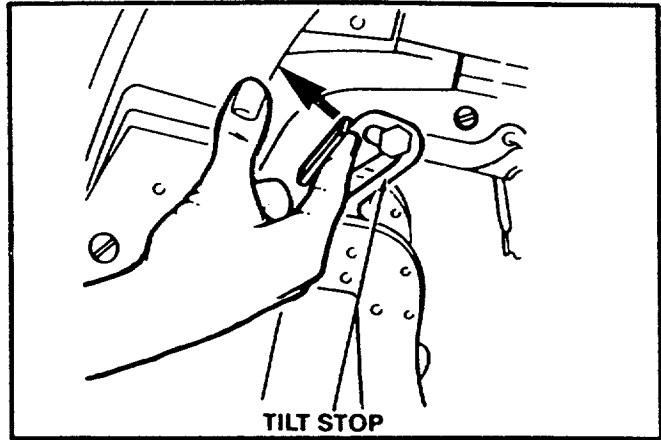

FIGURE 8
- Return motor to operating position. Grasp handle on back of motor cover and pull slightly forward. Pull the tilt stop up to release motor. (Figure 8)